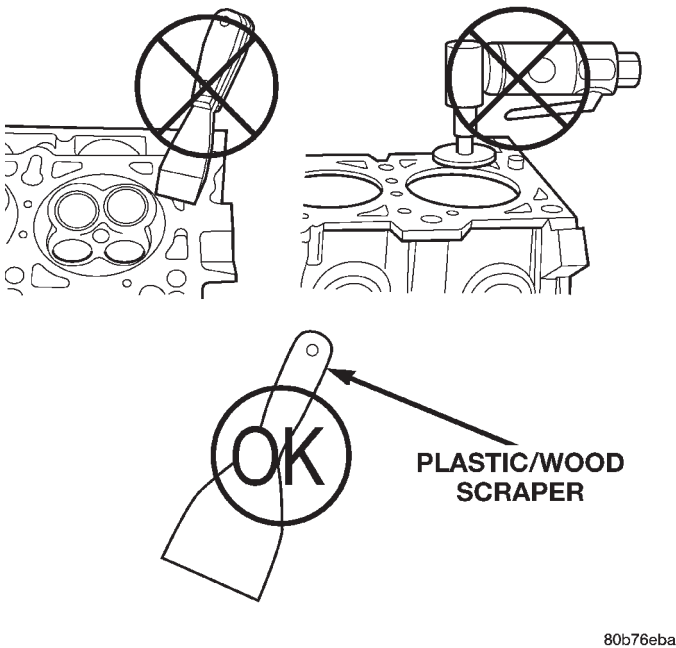

Fig. 47 Proper Tool Usage for Surface Preparation
(1) Clean the cylinder head and cylinder block mating surfaces (Fig. 47).
(2) Position the new cylinder head gasket on the locating dowels.